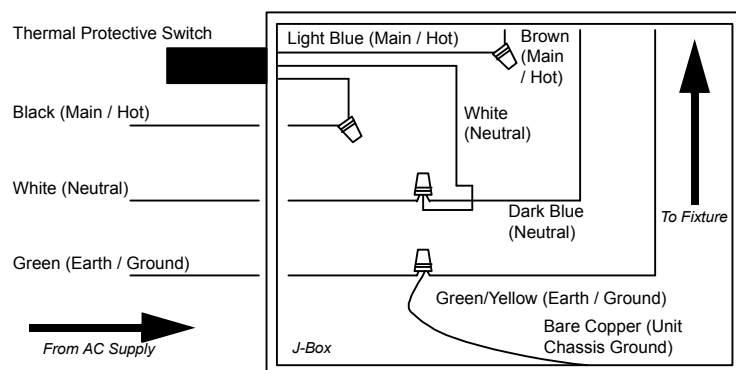

Figure 2: J-Box Electrical Connections - 120VAC Markets
- 1) Remove cover from Junction (J) Box.
- 2) At J-Box, connect AC input wiring as illustrated in **Figure 2**. Refer to "Power Requirements" on page 4 for power requirements.